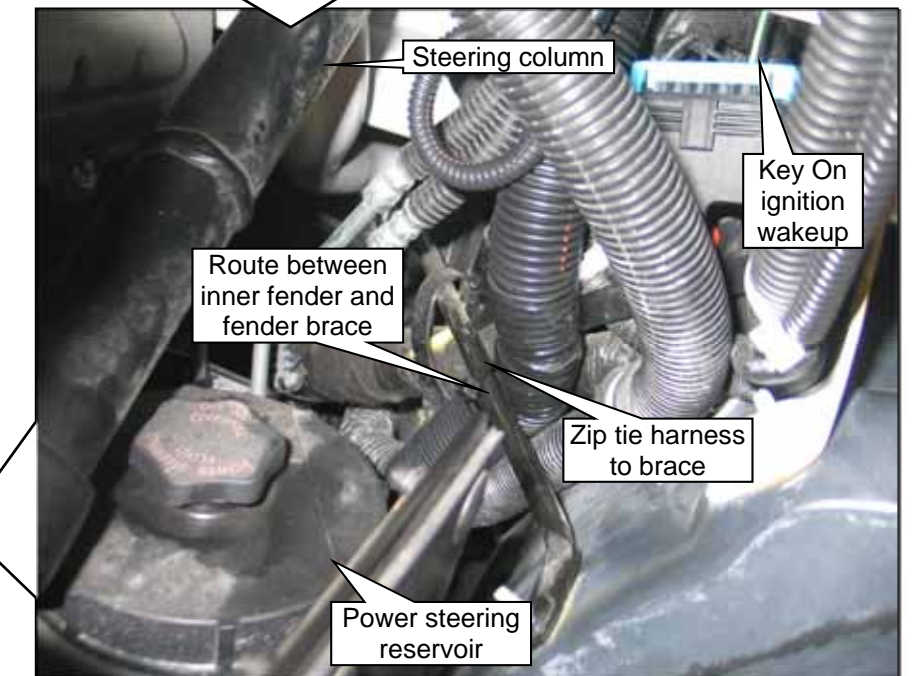

Figure 18.3
11. Route the lower end of the underhood harness down along the wheel well to the left of the steering column and back toward the left side frame rail. Following the OEM chassis harness. Secure with zip ties every 8–12 inches where possible. **Note:** Make sure to secure the underhood harness away from the steering column and other high heat or moving components. **Figure 18.3.**